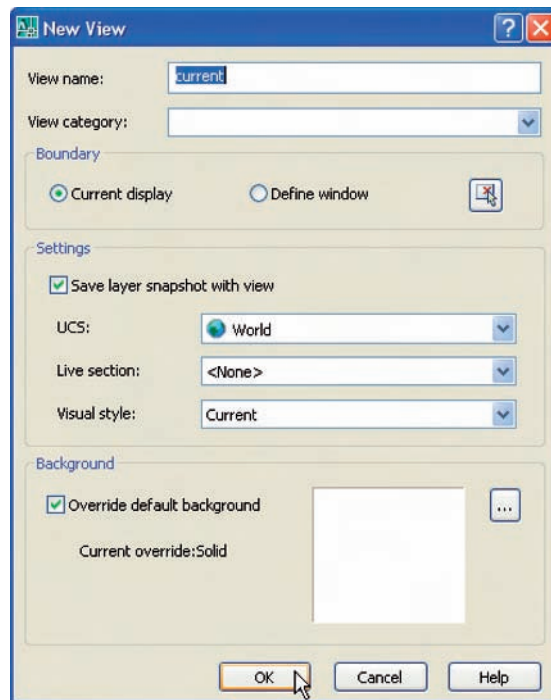

Fig. 16.13 The **New View** dialog
6. The **New View** dialog reappears showing the background as white. *Click* the dialog’s **OK** button (Fig. 16.13). The **View Manager** dialog reappears. *Click* its **OK** button.